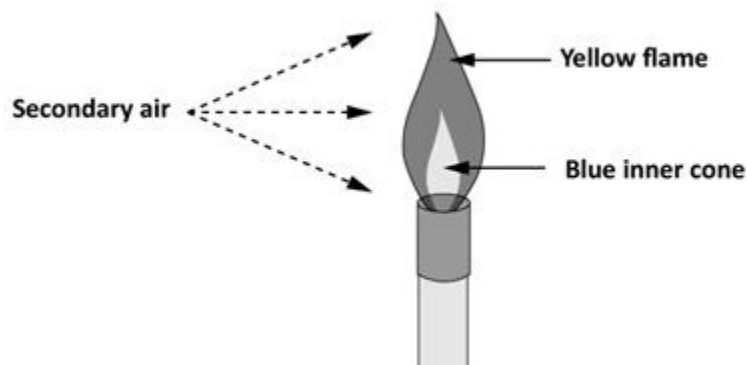

Figure 1 Luminous flame
- Figure 1 “Atmospheric burner” by Camosun College is licensed under a CC BY 4.0 licence (<https://creativecommons.org/licenses/by/4.0/>).
A luminous flame burner does not premix gas and air before ignition and consequently the flame depends upon the air around the flame (secondary air) for combustion. When the gas is heated inside the flame without air, the hydrogen and carbon particles separate. The flame has a small blue inner cone created by the hydrogen burning at a greater speed and a lower temperature than does carbon. The slower burning carbon, because of their higher temperature, produce an incandescent light creating a large glowing yellow flame (Figure 1). This type of burner is used in decorative appliances and appliances that are designed to give off light.